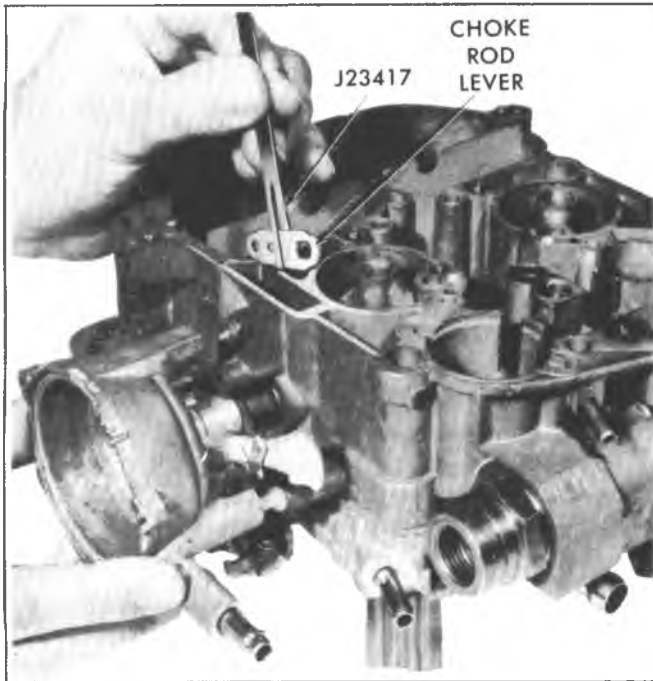

Fig. 6C4-46--Installing Choke Rod Lever
2. Install throttle body making certain throttle body is properly located over dowels on float bowl, then install throttle body to bowl screws and tighten evenly and securely (Fig. 6C4-43).
4. Install fuel inlet filter spring, filter, new gasket and inlet nut and tighten nut to 24 N·m (18 ft. lbs.) (Fig. 6C4-42).